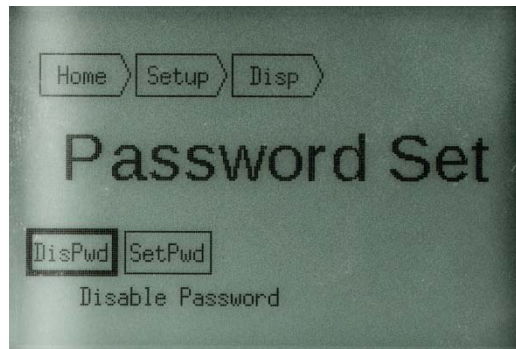

Figure 4-15: Password Set Screen
6. If the passwords **match**, the initial password screen (Figure 4-15) will reappear.